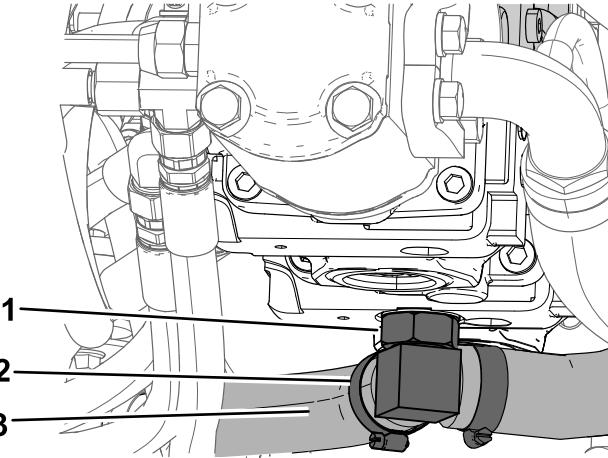

Figure 16
5. Loosen the 2 hose clamps and remove the hoses from the fitting (Figure 16).
2. Hose clamp (2)
3. Hose (2)
7. Use a 1-1/4 inch crowfoot or open-end wrench to loosen the nut on the fitting shown in Figure 16.
11. Rotate the fitting to the original orientation (Figure 16). Torque the nut to 182 to 222 N·m (134 to 164 ft-lb).
12. Install the hoses and hose clamps (Figure 16).